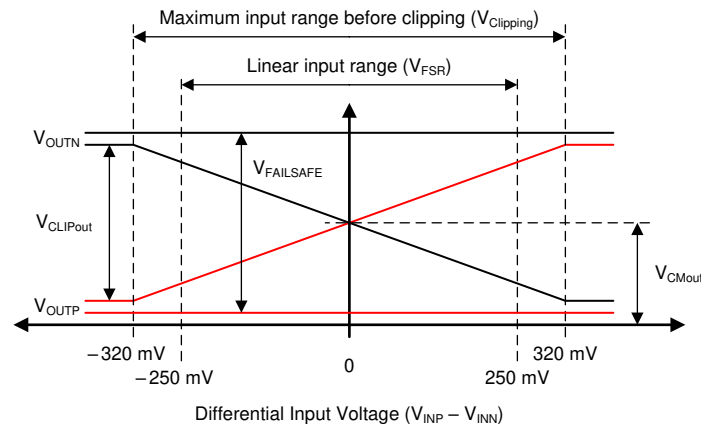

Figure 7-2. Output Behavior of the AMC3301-Q1
The AMC3301-Q1 offers a differential analog output comprised of the OUTP and OUTN pins. For differential input voltages ($V_{INP} - V_{INN}$) in the range from -250 mV to $+250\text{ mV}$, the device provides a linear response with a nominal gain of 8.2. For example, for a differential input voltage of 250 mV , the differential output voltage ($V_{OUTP} - V_{OUTN}$) is 2.05 V . At zero input (INP shorted to INN), both pins output the same common-mode output voltage V_{CMout} , as specified in the Electrical Characteristics table. For absolute differential input voltages greater than 250 mV but less than 320 mV , the differential output voltage continues to increase in magnitude but with reduced linearity performance. The outputs saturate at a differential output voltage of $V_{CLIPout}$ as shown in Figure 7-2 if the differential input voltage exceeds the $V_{Clipping}$ value.
The AMC3301-Q1 provides a fail-safe output that simplifies diagnostics on system level. Figure 7-2 shows the fail-safe mode, in which the AMC3301-Q1 outputs a negative differential output voltage that does not occur under normal operating conditions. The fail-safe output is active in two cases:
- The low-side does not receive data from the high-side (for example, because of a loss of power on the high side). In this case, the amplifier outputs are driven to the V_{FAILSAFE} value that is shown in Figure 7-2.
- The high-side DC/DC output voltage (DCDC_OUT) or the high-side LDO output voltage (HLDO_OUT) drop below their respective undervoltage detection thresholds (brown-out). In this case, the low-side may still receive data from the high-side but the data may not be valid. The amplifier outputs are driven to the V_{FAILSAFE} value that is shown in Figure 7-2.